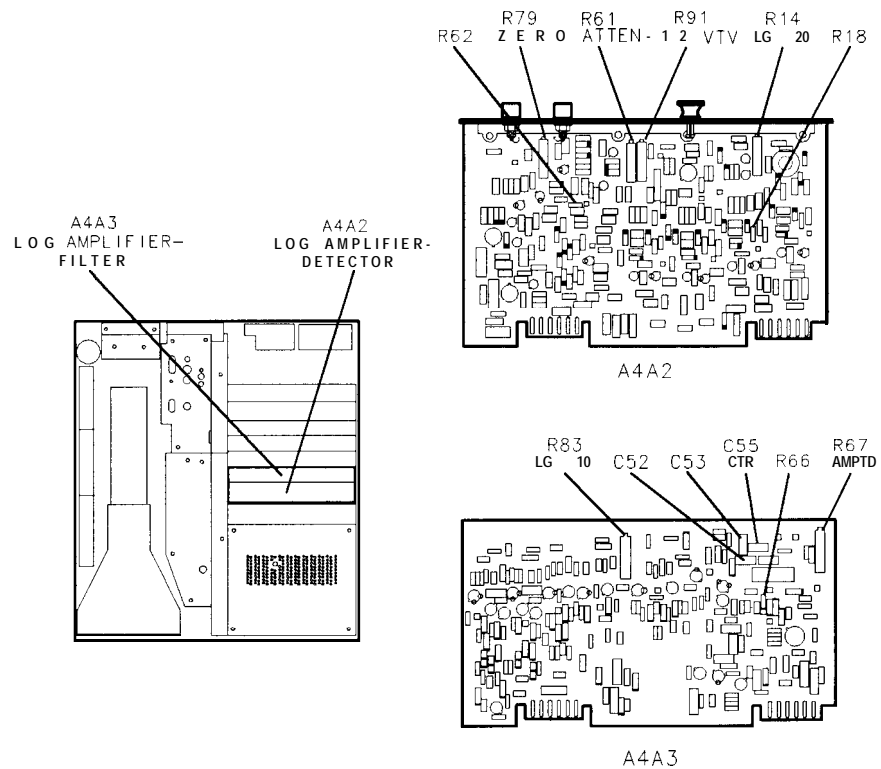

Figure 3-34. Location of Log Amplifier Adjustments
5. Adjust A4A2R79 ZERO for 0.0000 ±0.0005 V dc. See Figure 3-34 for location of adjustment.
8. Adjust A4A3C55 CTR for maximum DVM indication. See Figure 3-34 for location of adjustment. If A4A3C55 is at an extreme of its adjustment range (fully meshed, maximum capacitance, or unmeshed, minimum capacitance), increase or decrease value of A4A3C52 and A4A3C53. Refer to Table 3-3 for range of values.
11. Adjust A4A3R67 AMPTD for DVM indication the same as that noted in step 9 ± 0.0005 V dc. See Figure 3-34 for location of adjustment. If unable to adjust A4A3R67 AMPTD for proper indication, increase or decrease value of A4A3R66. (If A4A3R67 is fully counter-clockwise, increase the value of A4A3R66.)
18. Adjust A4A2R91 – 12 VTV for DVM indication of $+ 500 \pm 1$ mV dc. See Figure 3-34 for location of adjustment.
20. Adjust A4A2R61 ATTEN for DVM indication of $+ 1.000 \pm 0.0001$ V dc. See Figure 3-34 for location of adjustment. If unable to adjust A4A2R61 ATTEN for proper indication, increase or decrease value of A4A2R62. (If A4A2R61 is fully clockwise, increase the value of A4A2R62.) Refer to Table 3-3 for range of values.
25. Adjust A4A3R83 LG10 for DVM indication of $+ 1.000 \pm 0.010$ V dc. See Figure 3-34 location of adjustment. If unable to adjust LG10 for proper indication, increase or decrease value of A4A3R54. Refer to Table 3-3 for range of values.
28. Adjust A4A2R14 LG20 for DVM indication of $+ 1.000 \pm 0.010$ V dc. See Figure 3-34 for location of adjustment. If unable to adjust LG20 for proper indication, increase or decrease value of A4A2R18. Refer to Table 3-3 for range of values.